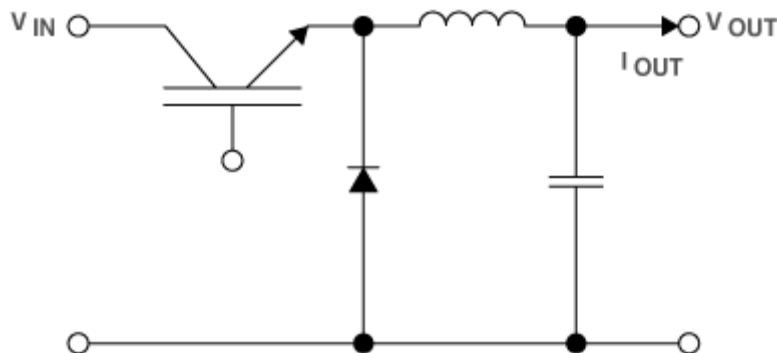

Fig. 7 Conventional Buck Converter
**Suggested Topology:** Conventional Buck Converter as shown in Fig. 7